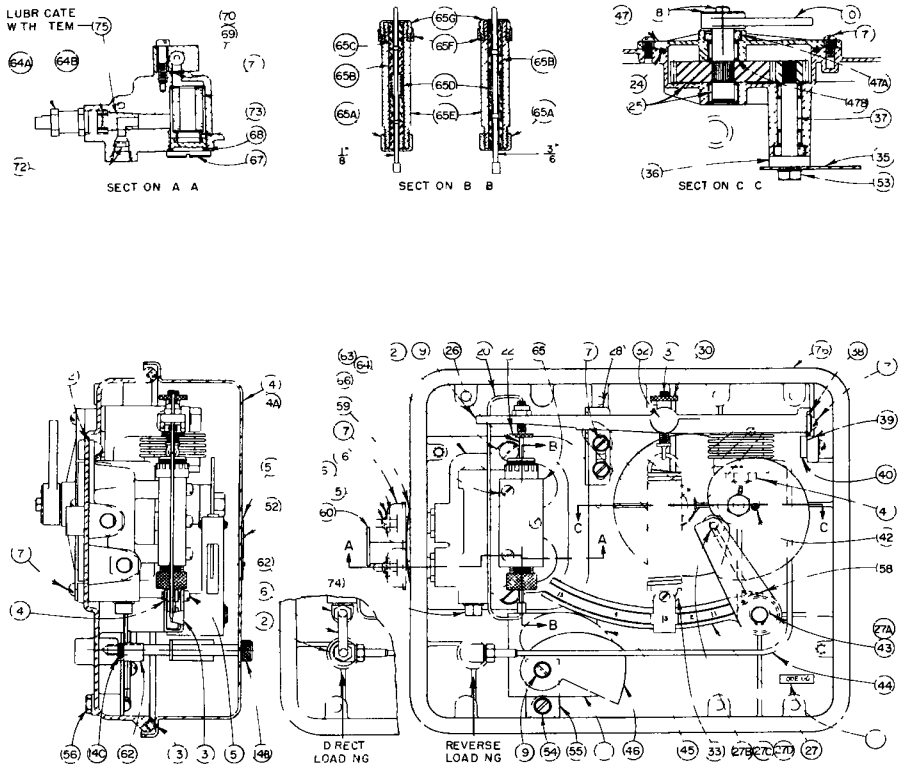

FIGURE 21 Parts Drawing P92 11, Positioner Part No 5311450 □
8. Annually check filters in pilot valve body (Figure 21), replace if necessary.